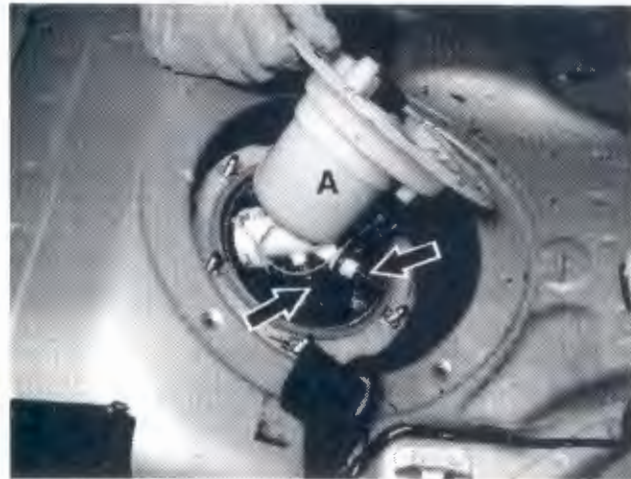

Figure 6
5. Disconnect fuel lines (arrows, Figure 6) from fuel filter (A).
6. Remove fuel filter (A, Figure 6).